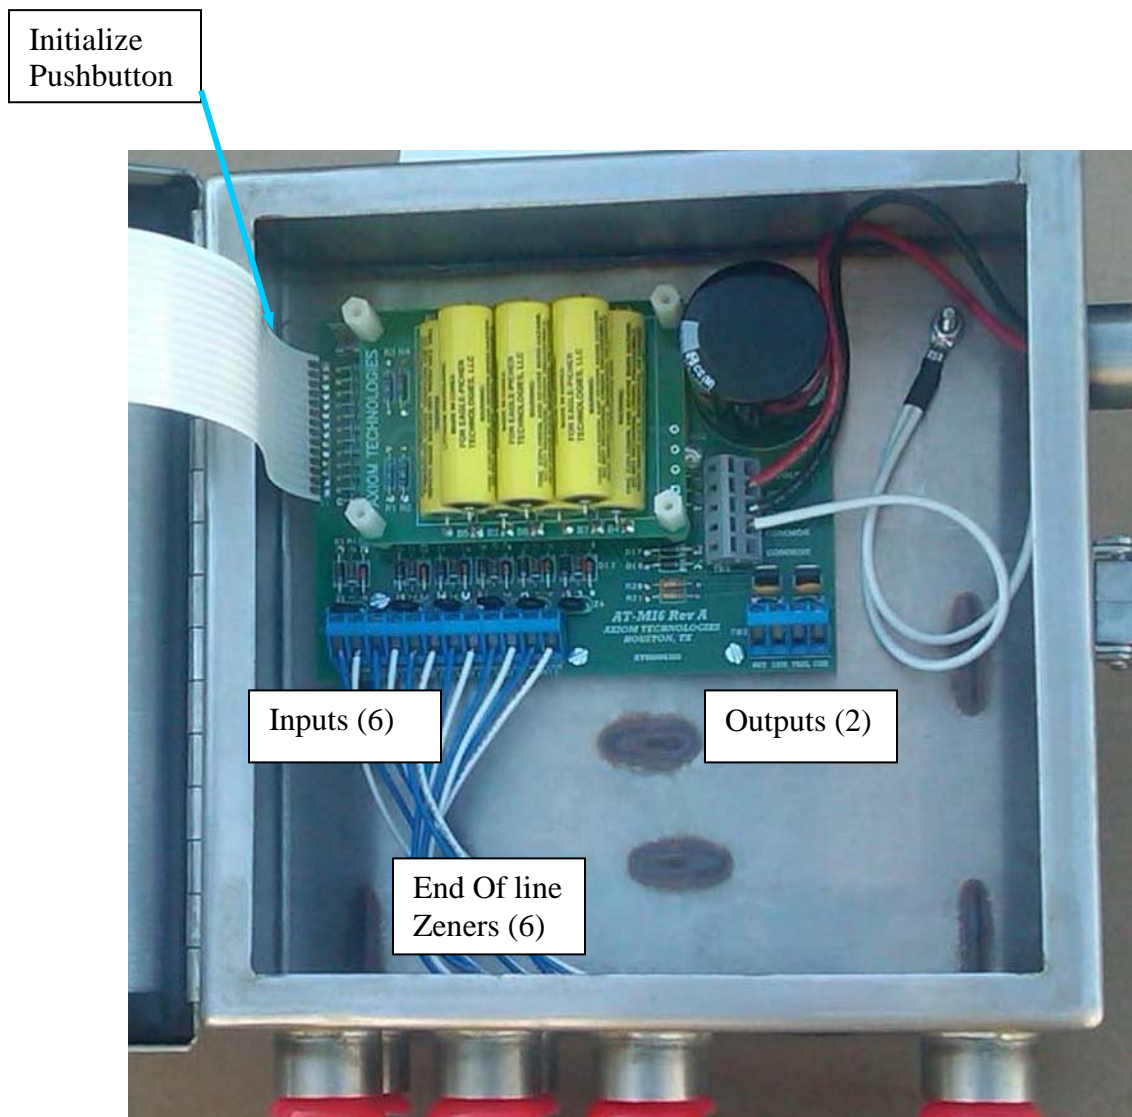

Fig. 3 MI6 Interior View with Initialize Pushbutton
- 2- While holding the "Test – Reset" switch down, momentarily depress the "Initialize" pushbutton on the controller board (upper left corner as shown on Fig 3, Page 4) and then let go the "Test – Reset" switch. The green LED responds by flashing rapidly for a few seconds.